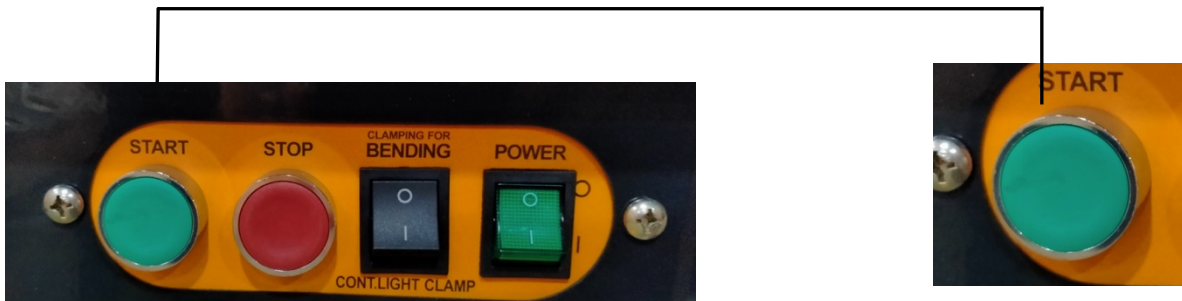

figure 8
6. To apply the pre-clamping force, step down on the footswitch or press either of the GREEN start switches (See fig. 8 below).